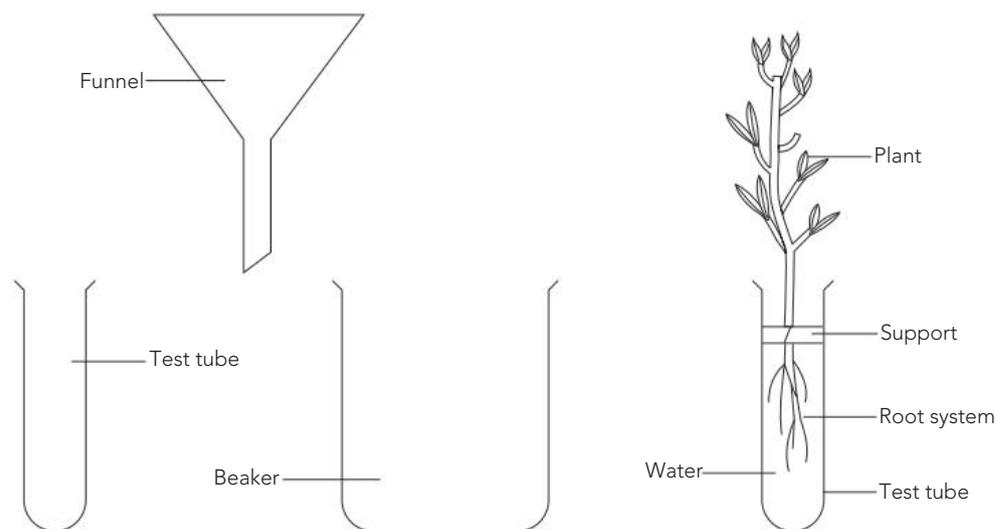

Figure 2.7 Examples of scientific diagrams
- **Diagram.** These are useful when describing specific pieces of apparatus, observations, or experimental designs. In all cases use an HB pencil when using a book. This works well in the field, especially if wet conditions are encountered, and allows mistakes to be corrected easily. Keep diagrams as clean lines; don't colour them in. Figure 2.7 shows some features of good diagrams.